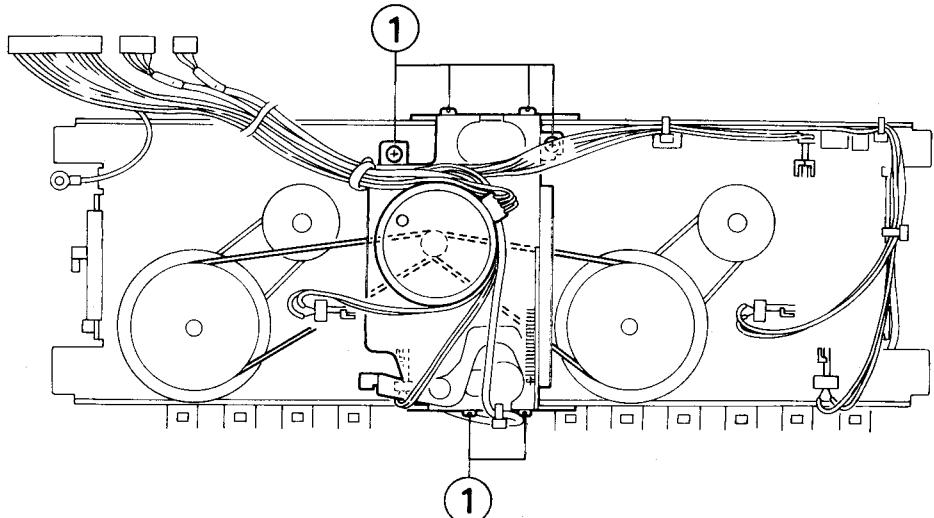
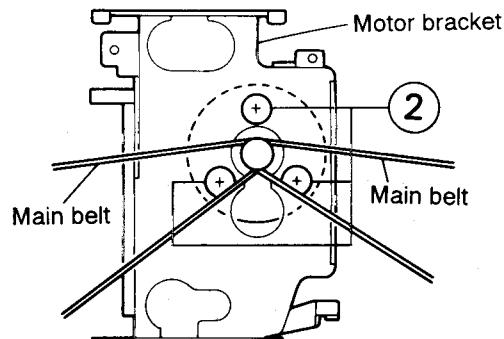

Fig. 2-21
Fig. 2-22
■ Capstan motor (Fig. 2-21, Fig. 2-22)
5. Remove six screws ① retaining the motor bracket from the back of the cassette mechanism.
7. Remove six screws ② retaining the Capstan motor from the back of the cassette mechanism.